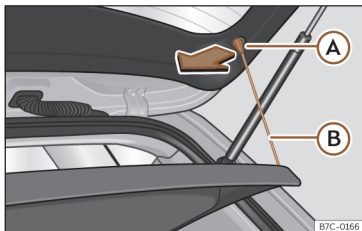

Fig. 168 In the boot: removing and installing the shelf.
- Detach the cord loops >>> **Fig. 168 (B)** from their hooks **(A)**.
- Attach the securing straps >>> **Fig. 168 (B)** onto the rear lid.